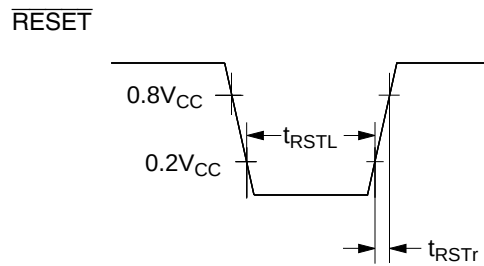

Figure 86 $\overline{RESET}$ Timing
5. Refer to figure 86.
- Refer to figure 86.